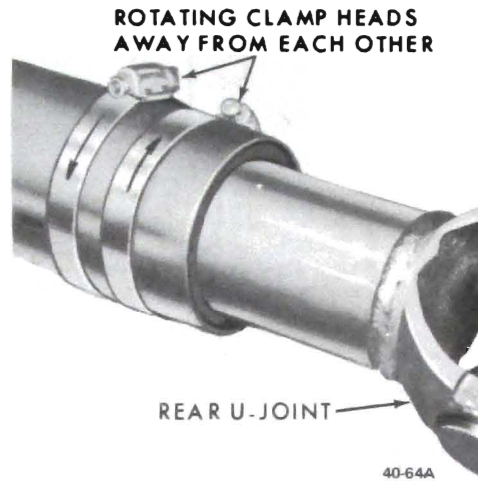

Figure 40-64 - Rotating Balance Hose Clamps
7. Position clamps at point of minimum unbalance. Rotate the clamp heads away from each other 45 degrees. (One each way from the point of minimum unbalance) Run the car and note if unbalance has improved. See Figure 40-64.